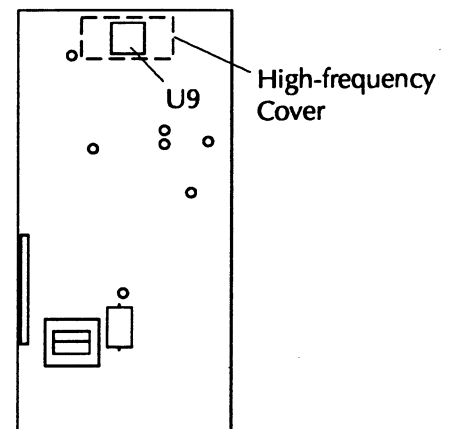

Figure 2 HT2000 Control Board PCB2
4. Find Control Board PCB2 and firmware IC **081004**. Firmware IC is located in socket labeled **U9** underneath high-frequency cover. See Figure 2.